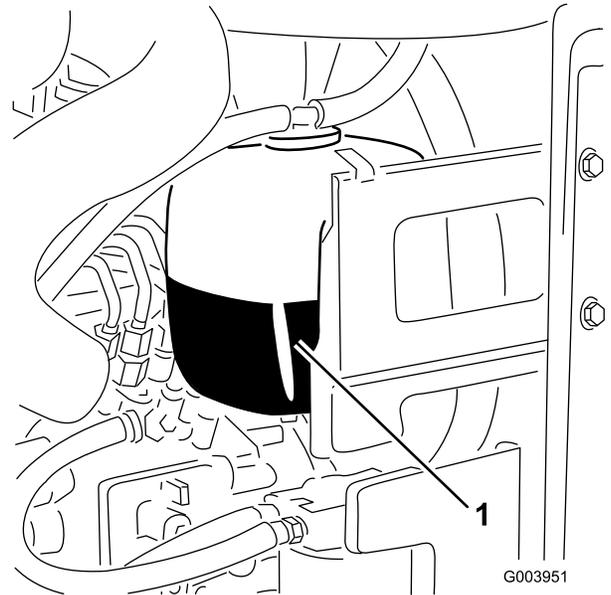

Figure 73
1. Check the level of coolant in the expansion tank (Figure 73).